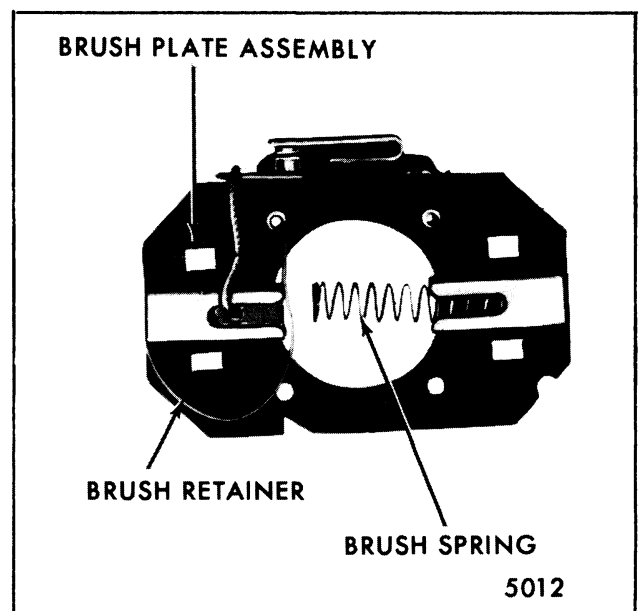

Fig. 2-41-Brush Plate Assembly - Removed
5. Position the partially assembled brush plate (Fig. 2-41) over the armature shaft far enough to allow reassembly of the remaining brush in its brush holder; then position the brush plate assembly on the mounting tabs in the position shown in Figure 2-30.